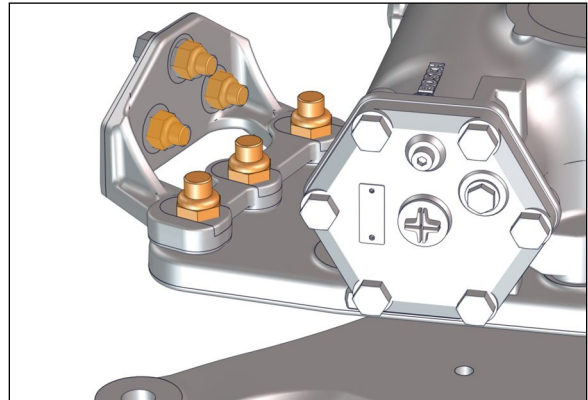

FIGURE 10: SIDE BRACKET
13. Unscrew six (6x) bolts fastening the pedestal to the side bracket (Figure 10). Remove the side bracket.